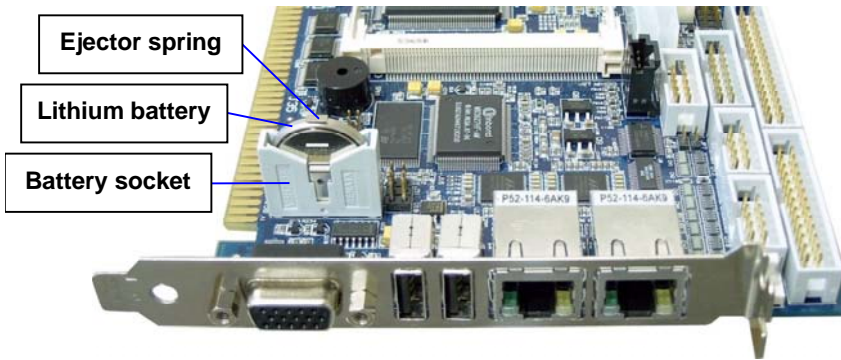

Fig. 7: Placement of the battery
5. Make sure that you insert the battery correctly. The minus pole must be as marked (with a white line on the battery) in *fig. 7*!